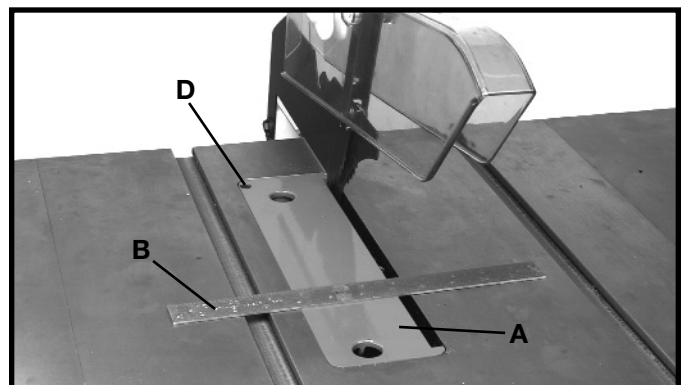

Fig. 38
Place a straight edge (B) across the table at both ends of the table insert as shown in Fig. 38.
⚠ CAUTION THE TABLE INSERT (A) FIG. 38 SHOULD ALWAYS BE LEVEL WITH, OR SLIGHTLY BELOW, THE SURFACE OF THE TABLE.
If an adjustment is necessary, remove the table insert screw (D) Figs 38 and 39, and turn the adjusting screws, on the bottom of the insert, as needed, with the 3mm hex wrench supplied.